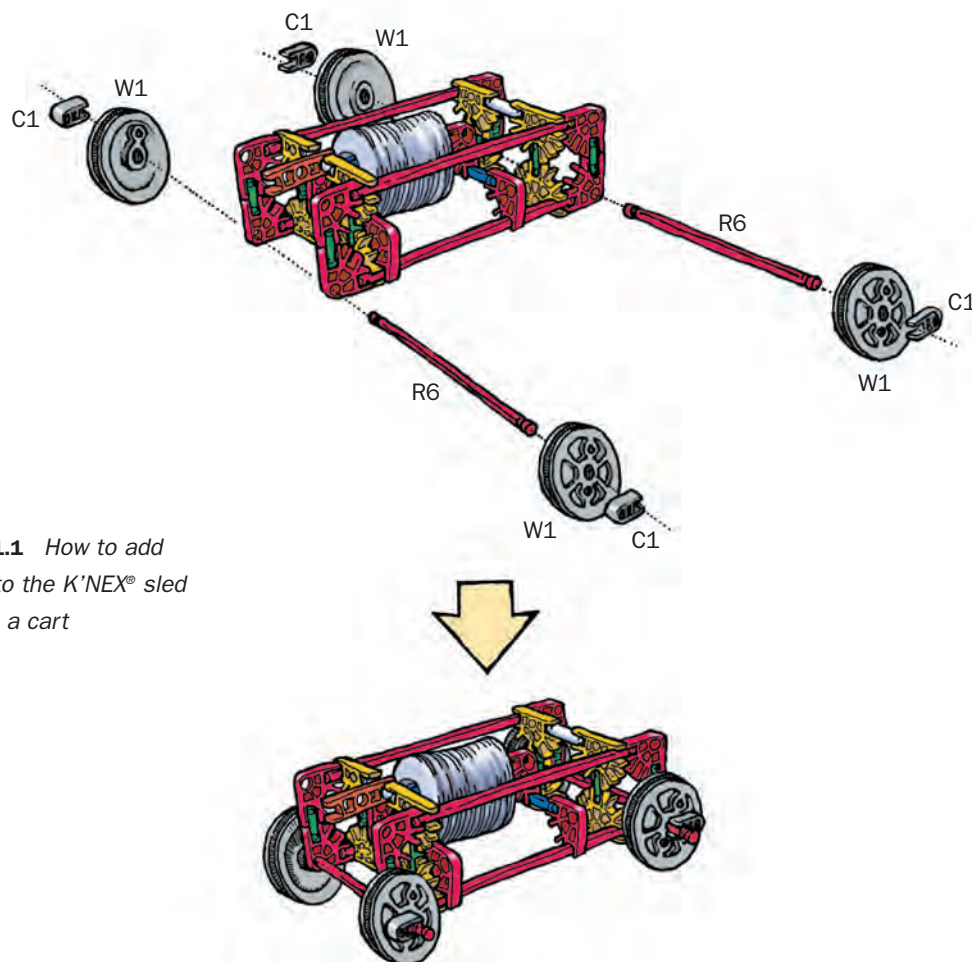

Figure 11.1 How to add wheels to the K'NEX® sled to make a cart
3. Now add wheels to your sled to turn it into a "cart," as shown in Figure 11.1.